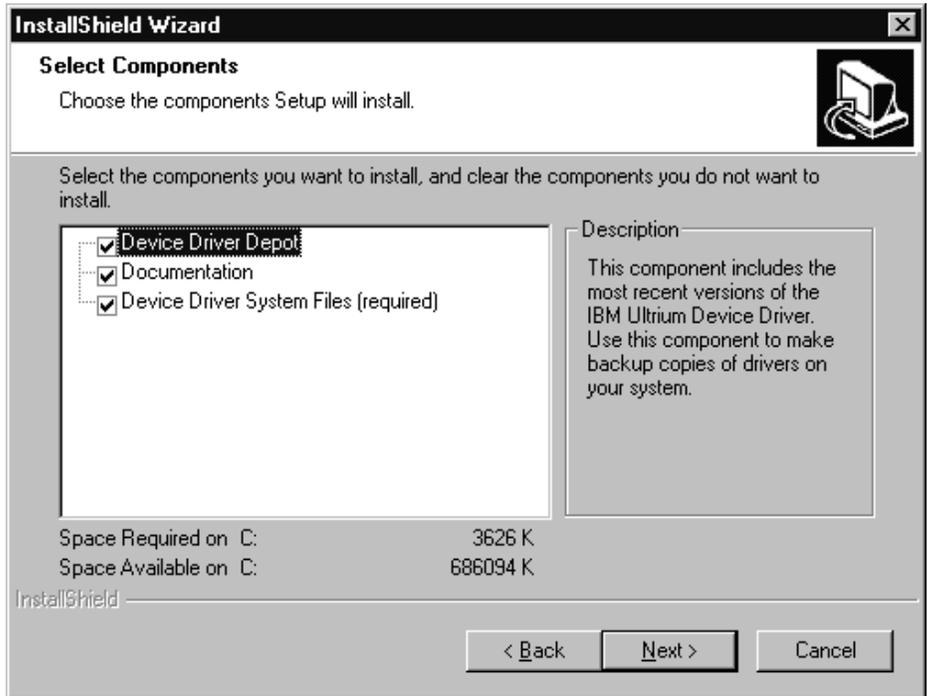

Figure 9. Select Components Menu
- c. If you choose **custom** installation, the program will allow you to choose which components to install (see Figure 9).